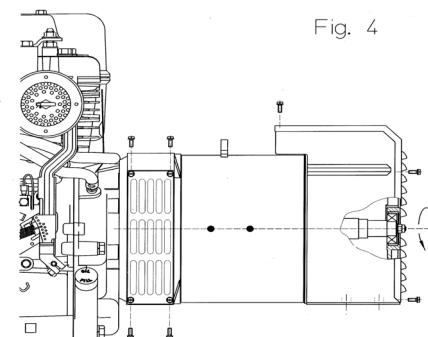

Fig. 4
-) block the central stay rod, applying a tightening torque of  $21\pm7\%$  Nm if you are using stay rods of M8, while if you are using M14 stay rods, apply a tightening torque of  $120\pm7\%$  Nm; reassemble the lateral protective nets and the rear closing grid by applying a tightening torque of  $3,5\pm7\%$  Nm to the M5 screws (figure 4)